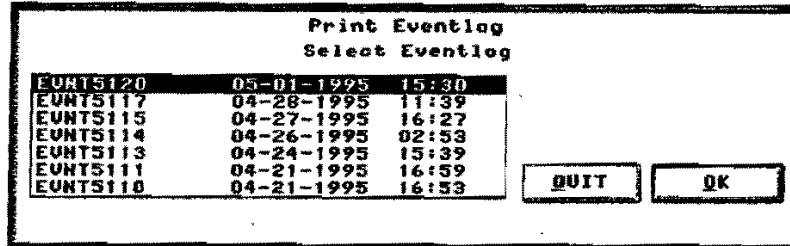

Figure 12.23 Print Eventlog Dialog Box
1. Select **Eventlog** in the Print menu to display the dialog box shown in Figure 12.23. The highest priority Service is selected, as is the most recent of up to seven eventlog files displayed in the list.